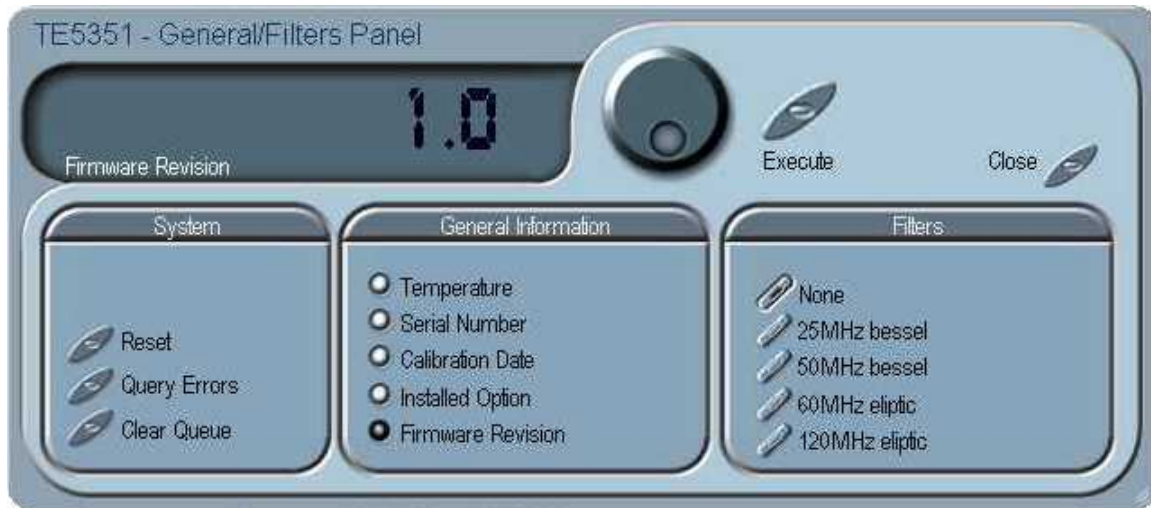

Figure 6-4, Firmware Revision Screen
3) Using ArbConnection, select the General/Filters panel from the System tab and click on the Firmware Version button. The General/Filters panel with the firmware revision indication is shown in Figure 6-4.